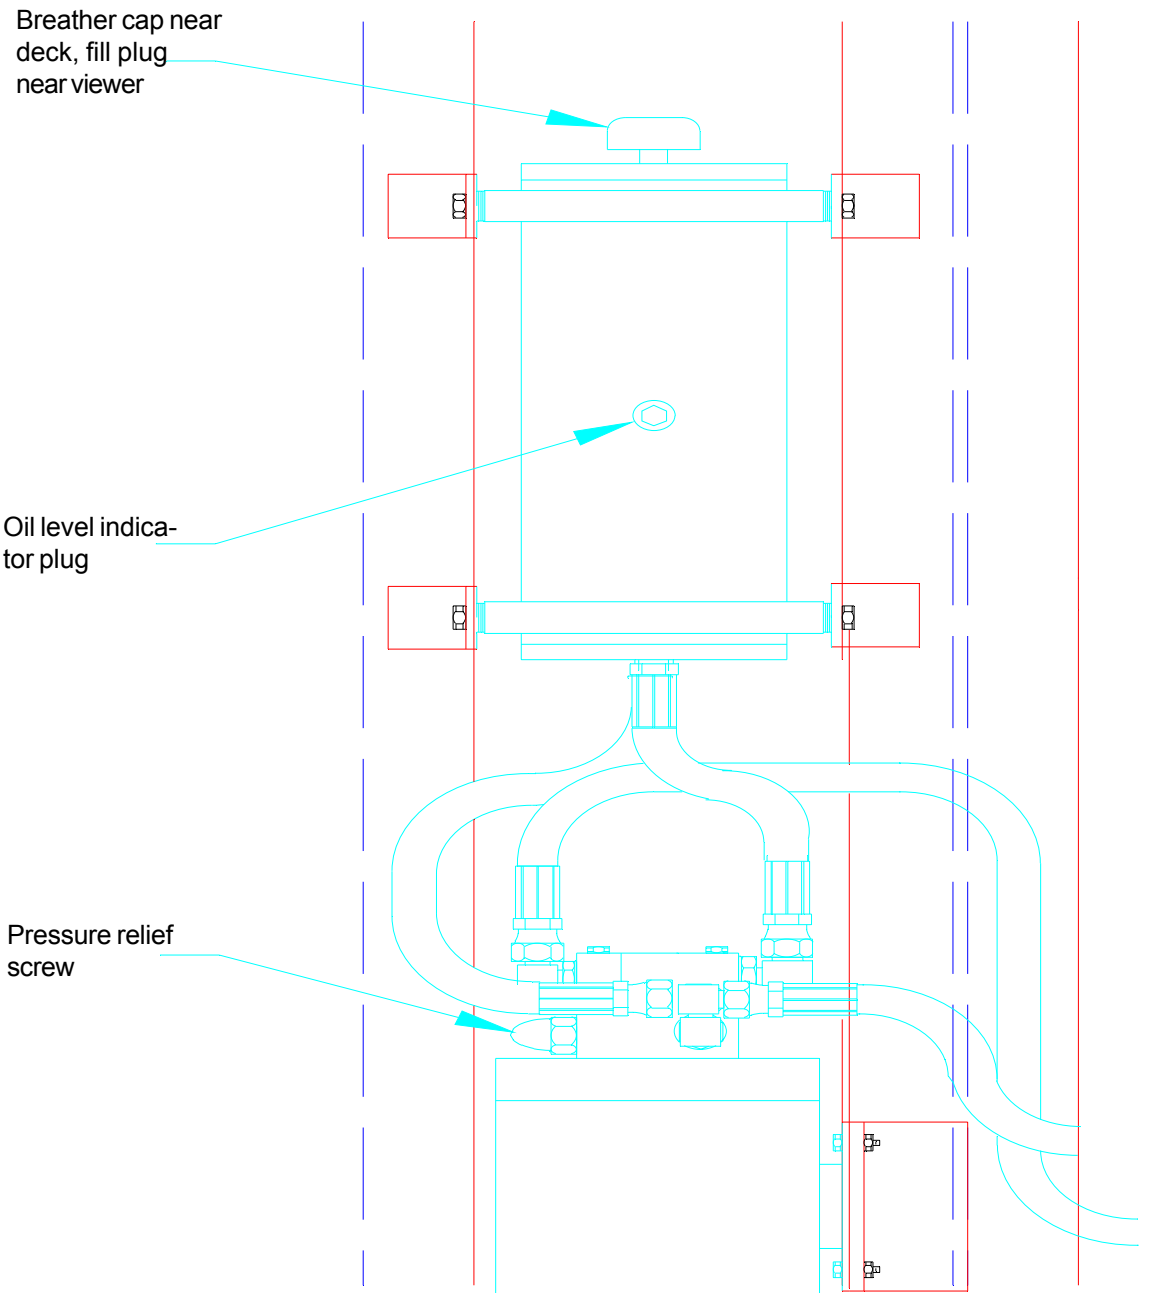

Figure 7
6. Remove 3/8" NPT pipe plug from top of reservoir and replace with breather cap (See Fig. 7).
2. Check hydraulic fluid level at plug on side of reservoir. If oil level is not flush with bottom of hole, add appropriate hydraulic fluid, see recommended hydraulic fluids (See Fig. 7).